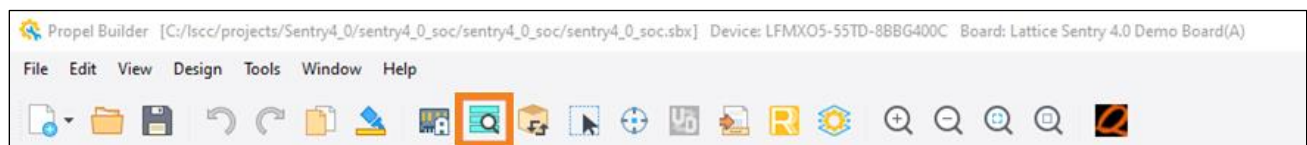

Figure 4.10. Propel Builder Validate Icon
12. Choose **Design** -> **Validate** or click the Validate icon to validate SoC project (Figure 4.10).